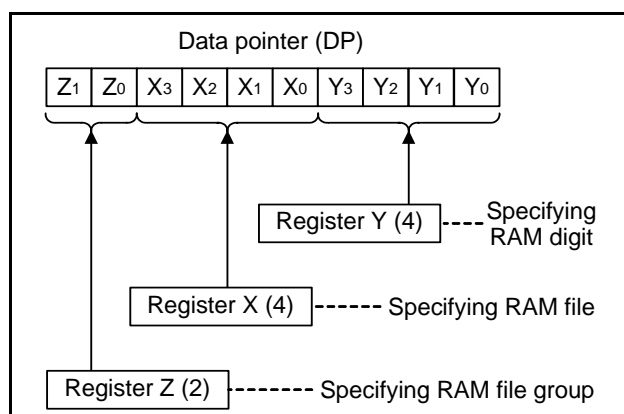

Fig 14. Data pointer (DP) structure
Data pointer (DP) is used to specify a RAM address and consists of registers Z, X, and Y. Register Z specifies a RAM file group, register X specifies a file, and register Y specifies a RAM digit (Figure 14).